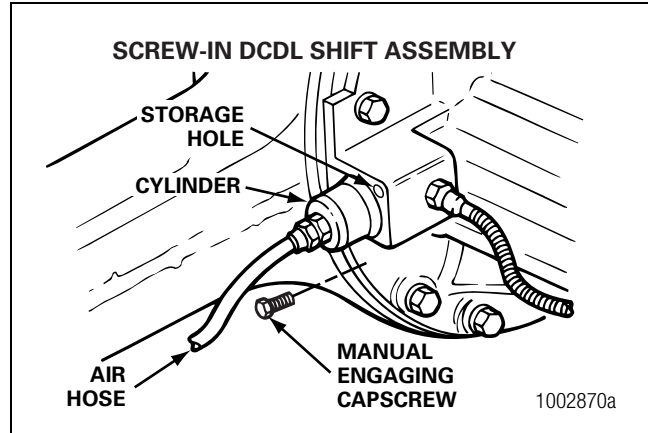

Figure 6.21
- Install the manual engaging capscrew into the DCDL storage hole in the bolt-on or the screw-in DCDL assembly. Figure 6.19 and Figure 6.21. The sealing gasket must be under the head of the capscrew.
- On a screw-in DCDL shift assembly, install the short screw or plug into the storage hole located in the top of the screw-in DCDL shift assembly. Figure 6.21.